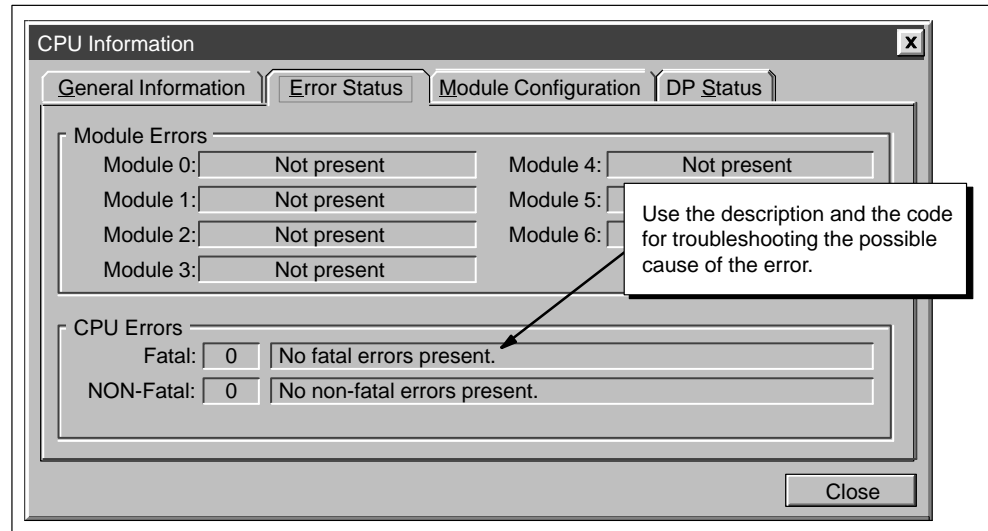

Figure 6-16 CPU Information Dialog: Error Status Tab
The S7-200 CPU classifies errors as either fatal errors or non-fatal errors. You can use STEP 7-Micro/WIN to view the error codes that were generated by the error. Figure 6-16 shows the dialog box that displays the error code and the description of the error. Refer to Appendix C for a complete listing of the error codes.
Non-fatal errors can degrade some aspect of the CPU performance, but they do not render the CPU incapable of executing your program or from updating the I/O. As shown in Figure 6-16, you can use STEP 7-Micro/WIN to view the error codes that were generated by the non-fatal error. There are three basic categories of non-fatal errors:
- **Run-time programming errors.** You (or your program) can create error conditions while the program is being executed. For example, an indirect-address pointer that was valid when the program compiled may be modified during the execution of the program to point to an out-of-range address. This is considered a run-time programming error. Use the dialog box shown in Figure 6-16 to determine what type of error occurred.